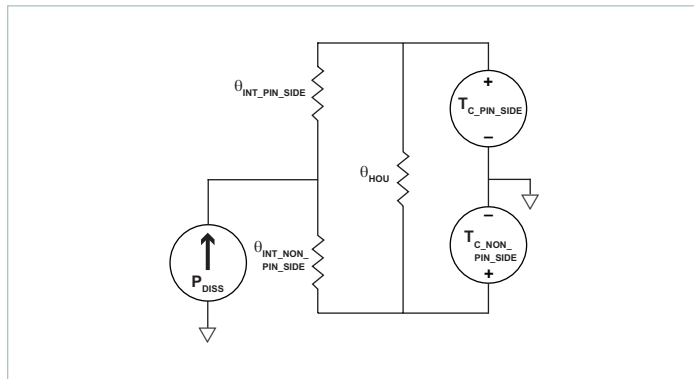
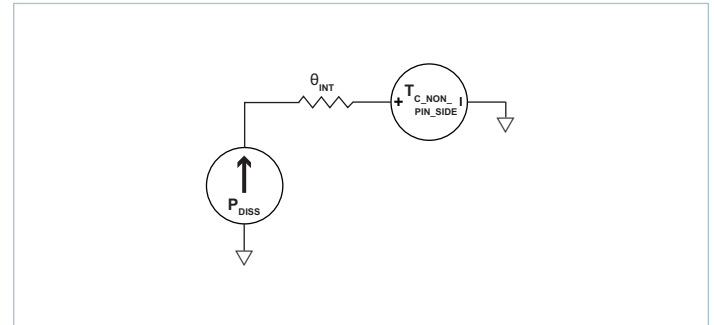

Figure 21 — Double-sided cooling thermal model
Figure 22 — Single-sided cooling thermal model
The VIA package provides effective conduction cooling from either of the two module surfaces. Heat may be removed from the pin-side surface, the non-pin-side surface or both. The extent to which these two surfaces are cooled is a key component for determining the maximum power that can be processed by a PFM, as can be seen from specified thermal operating area on Page 5. Since the PFM has a maximum internal temperature rating, it is necessary to estimate this internal temperature based on a system-level thermal solution. To this purpose, it is helpful to simplify the thermal solution into a roughly equivalent circuit where power dissipation is modeled as a current source, isothermal surface temperatures are represented as voltage sources and the thermal resistances are represented as resistors. Figure 21 shows the “thermal circuit” for the PFM in a VIA package.
- Single-side cooling: the model of Figure 21 can be simplified by calculating the parallel resistor network and using one simple thermal resistance number and the internal power dissipation curves; an example for non-pin-side cooling only is shown in Figure 22.